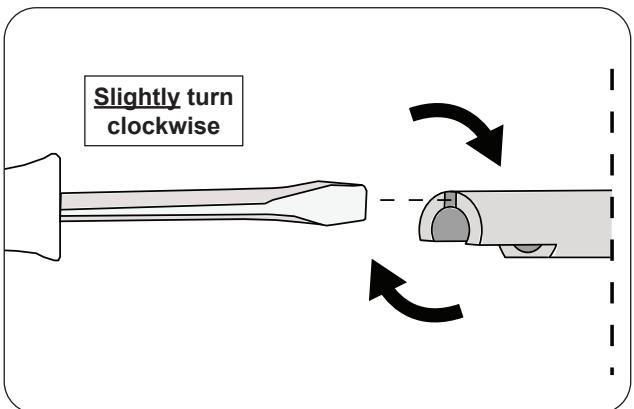

Fig. 48-2 Stem adjustment
2. Insert a flathead screwdriver into the split portion of the stem and GENTLY turn the screwdriver clockwise. Be cautious! Only a slight turn is needed as the stem is flexible. See Fig. 48-2.